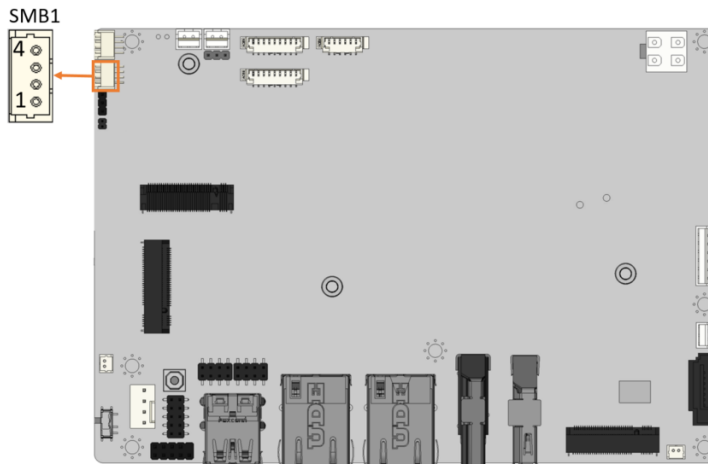

Figure 3-16: SMBus Connector Location
- CN Location:** See **Figure 3-16**